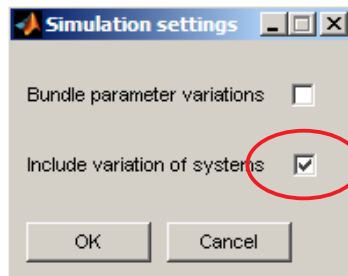

Figure 43: If the user wants a parameter variation simulation of different system settings, check the box as shown in the figure.
**NB: It is recommended that parameter variations of any settings in Systems should be performed in a separate copy of a iDbuild file.** If the user wants to see the output of a variation of a certain setting in the *Systems* separate from all other parameter variations, go to the menu item *Simulation* and choose the option *Simulation settings*. Check the box next to “Include variation of systems”, see Figure 43.